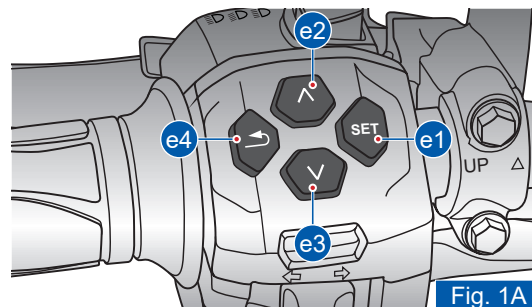

Fig. 1A
- After the self-check of the instrument cluster, press the 'SET' (e1) button to enter the menu function (ref. Fig. 1A).
But ride mode can be changed on-the-go by pressing 'Up' (b) arrow key (ref. Fig. 1A)